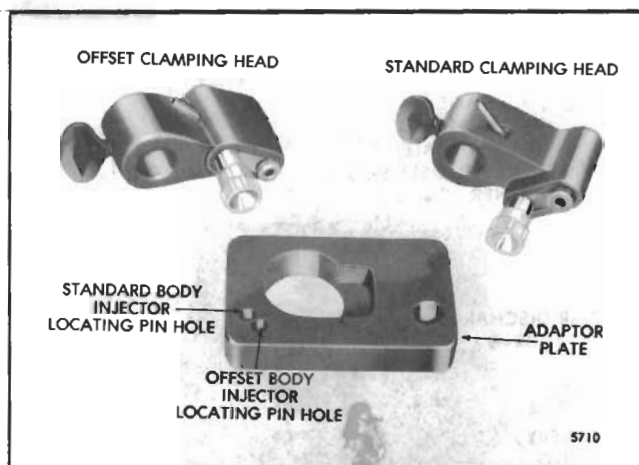
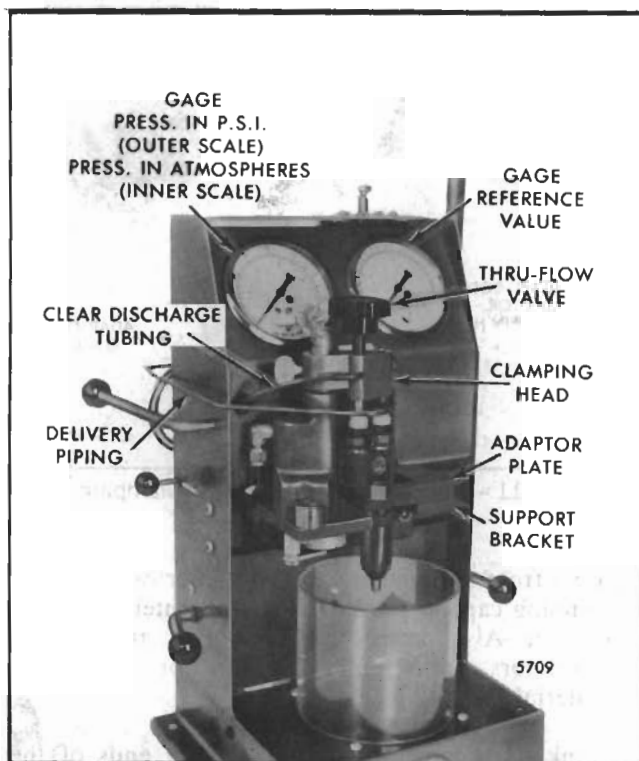

Fig. 11 - Injector Tester J 23010 Clamping Heads
Fig. 12 - Injector Installed in Tester J 23010 with clamping Head
1. Select the proper clamping head (Fig. 11). Position it on the clamping post and tighten the thumb screw into the lower detent position (Fig. 12).
5. Mount the injector through the large hole and insert the injector pin in the proper locating pin hole (Fig. 11).